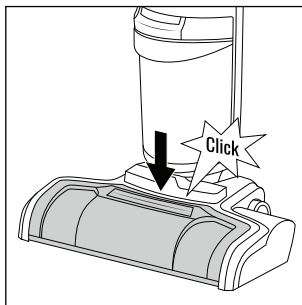

Fig. 42
- ♦ Then push the splash guard **7** into position until it audibly clicks into place on the foot section **3** (see fig. 42).